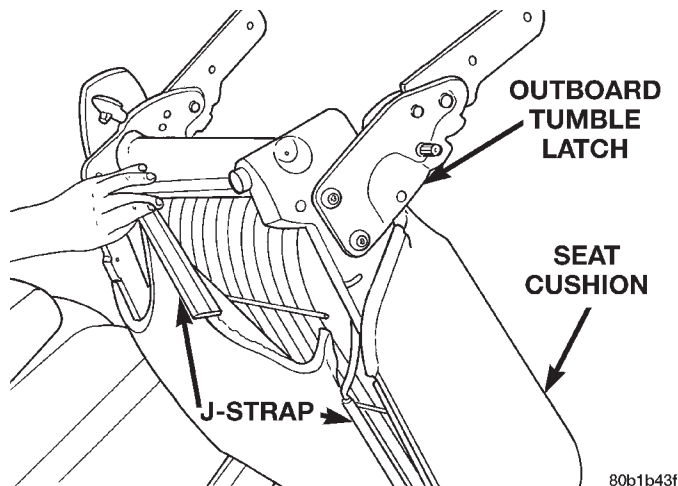
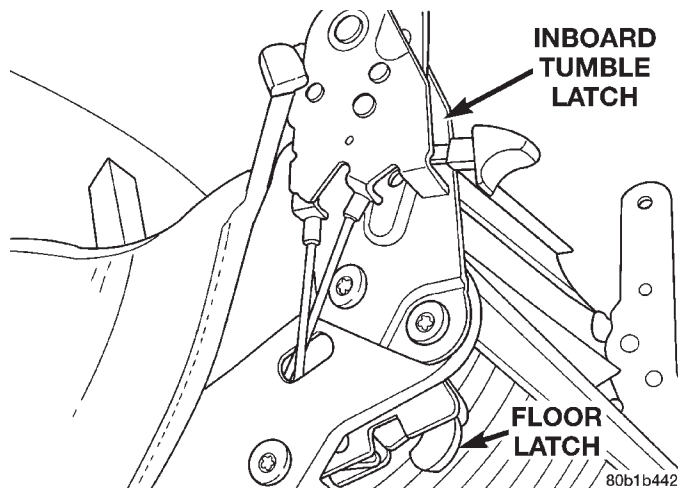

Fig. 9 Seat J-Strap
Fig. 10 Floor Latch
(1) Remove seat back.
(2) Disengage J-straps on seat cushion frame (Fig. 9).
(3) Remove bolts attaching outboard tumble latch to seat cushion frame.
(4) Remove bolts attaching inboard tumble latch to seat cushion frame.
(5) Remove bolts attaching floor latch to seat cushion frame (Fig. 10).
(6) Disengage latch cable from inboard tumble latch.
(7) Separate latches from seat cushion frame.
(1) Position latches on seat cushion frame.
(2) Route latch cables through seat frame and engage latch cable to inboard tumble latch.
(3) Install bolts attaching floor latch to seat cushion frame (Fig. 10). Tighten bolts to 27 N·m (19 ft. lbs.) torque.
(4) Install bolts attaching inboard tumble latch to seat cushion frame. Tighten bolt located in round hole first than bolt located in the slotted hole. Tighten bolts to 27 N·m (19 ft. lbs.) torque.
(5) Install bolts attaching outboard tumble latch to seat cushion frame. Tighten bolt located in round hole first than bolt located in the slotted hole. Tighten bolts to 27 N·m (19 ft. lbs.) torque.
(6) Engage J-straps on seat cushion frame (Fig. 9).
(7) Install seat back.